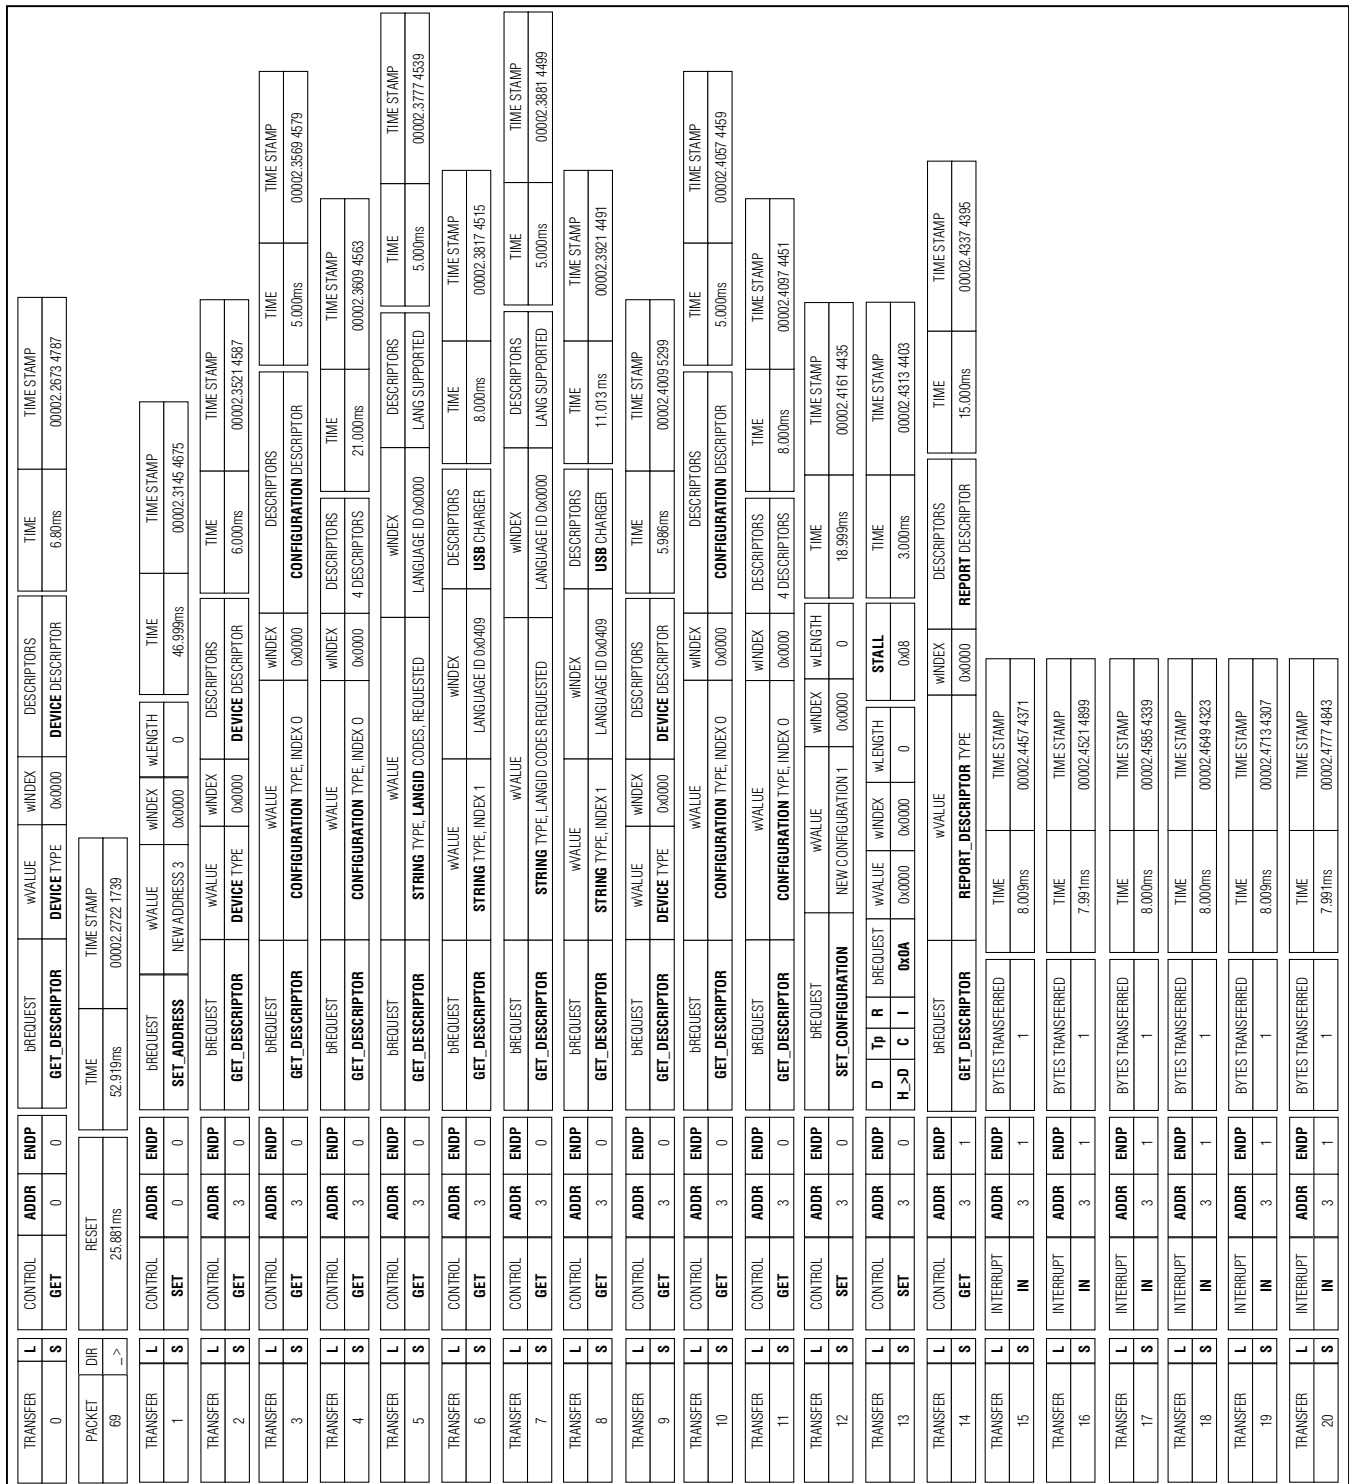

Figure 5. USB BUS Traffic: Low-Speed Enumeration
Figure 5 shows USB bus traffic as captured by a CATC USB bus analyzer. The traces show a PC (host) enumerating the peripheral. Notice that the LS field indicates the low-speed (1.5Mb/s) operation of IC's low-speed configuration.
- 2) The host begins by sending a Get_Descriptor_Device request (Transfer 0 in Figure 5). It does this to determine the maximum packet size of the device's EP0 buffer. The host then resets the device by issuing a bus reset (packet 69).